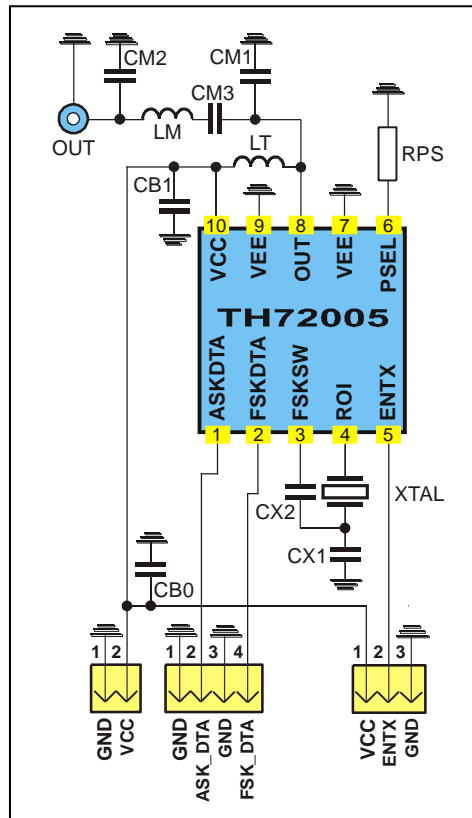

Fig. 18: Test circuit for FSK and ASK with 50 Ω matching network
typical values at $T_A = 23\text{ }^\circ\text{C}$ and $V_{CC} = 3\text{ V}$; test circuit shown in Fig. 18, $f_c = 315\text{ MHz}$
- Data according to test circuit in Fig. 18
6.1. Test circuit component list to Fig. 18